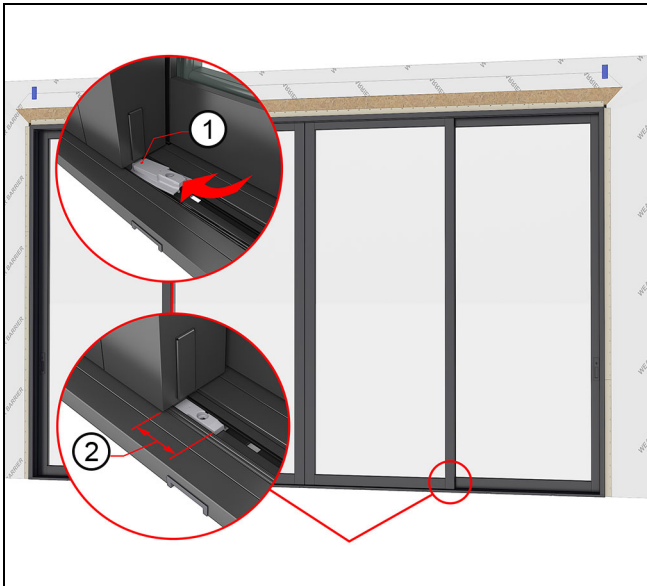

Figure 171
13. Snap the third and final lower stationary bracket onto sill, then slide underneath the (C) stationary panel until fully seated. The bracket should stick out approximately 2 1/4" (57) from panel when fully seated. Fasten the lower stationary bracket with a #8 x 1/2" self drilling screw. See Figure 171.